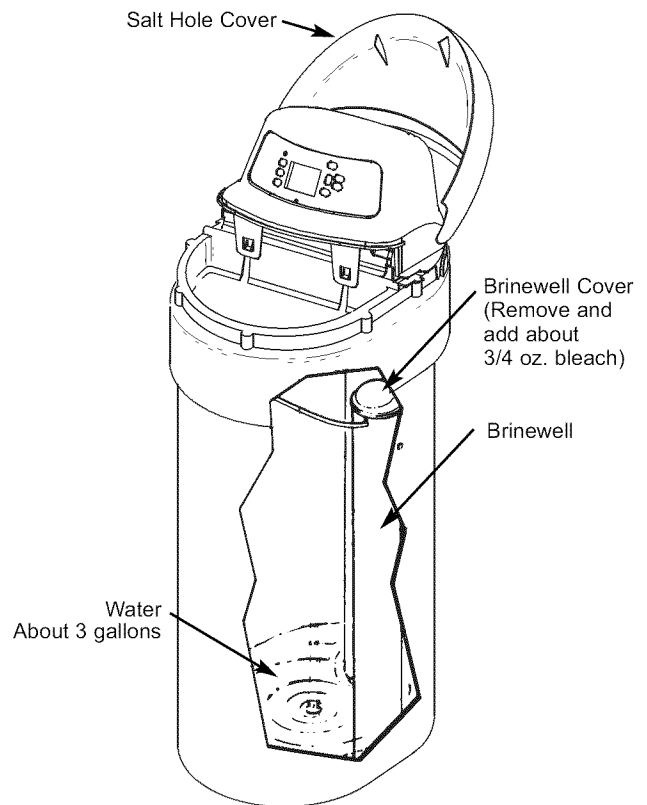

FIG. 30
3. Remove the brine well cover (Fig. 30) and pour about 3/4 ounce, or 1 to 2 tablespoons, of common 5.25%¹, *unscented*, household bleach (Clorox, Linco, BoPeep, White Sail, Eagle, etc.) in the softener brinewell. Replace the brinewell cover.